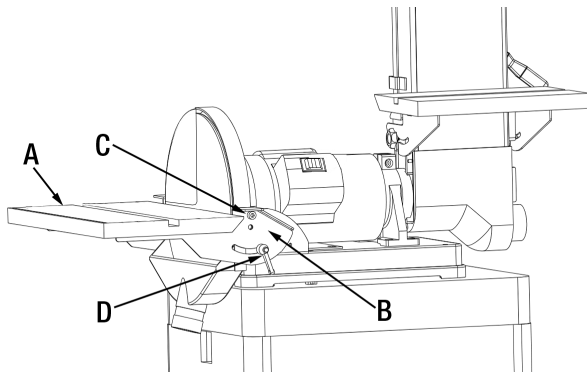

Figure 6
1. Position the sanding disc cast-iron table (A) Fig.6 near the sanding disc. Align the table mounting holes of the table with the threaded holes in the sanding disc brackets (B).
2. Secure the cast-iron table (A) Fig.6 to the brackets (B) using 2 cap screws (C). Hand tighten both cap screws to allow the table to tilt.
3. Secure the angle of the sanding disc cast-iron table (A) Fig.6 by installing 2 lock handles (D) as shown.